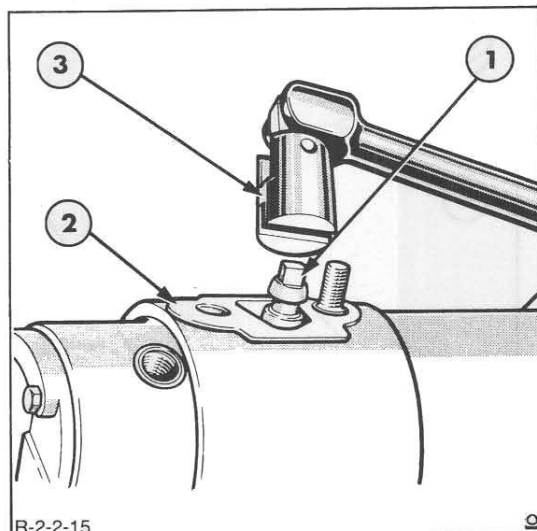

Figure 15
7. With tool No. 7244-125B and a suitable socket wrench remove the cam advance screw, Figure 15.